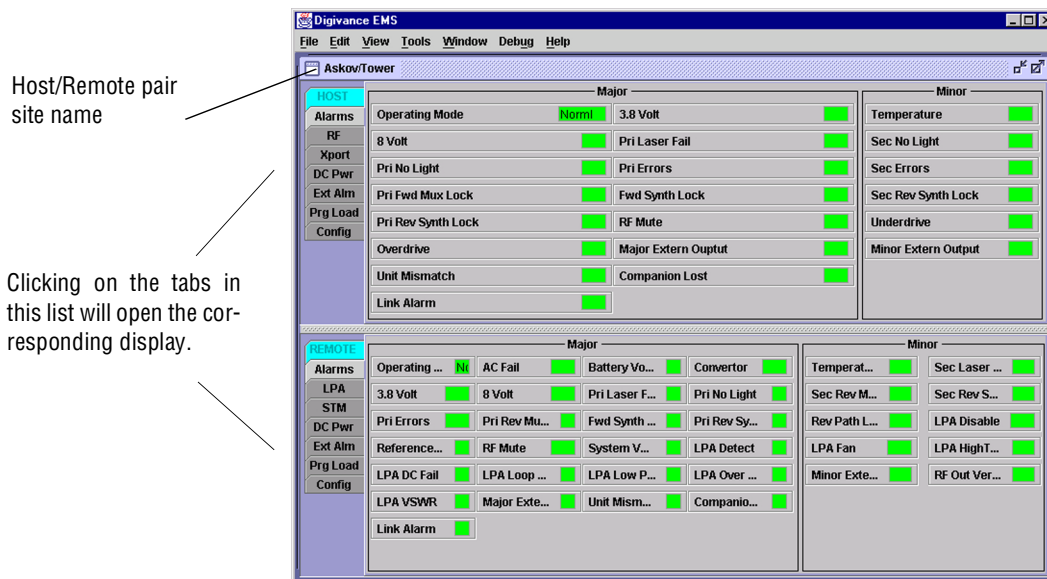

Figure 4-2. Selecting Display Tabs
9. Open the **View** drop down menu and connect to the Host and Remote pair by selecting “NotNamed/NotNamed”. The HOST **Alarms** display and the REMOTE **Alarms** display will open within the main window as shown in Figure 4-2.